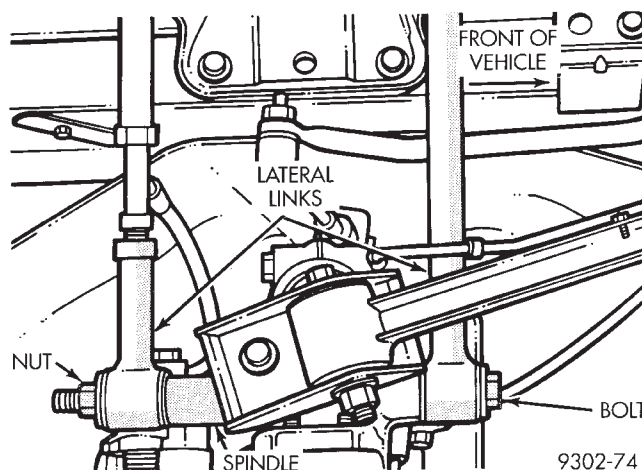

Fig. 5 Lateral Link Attachment To Spindle
(1) Raise vehicle on jackstands or centered on a frame contact type hoist. See Hoisting in the Lubrication and Maintenance section of this manual, for the required lifting procedure to be used for this vehicle.
(2) Remove right rear wheel and tire assembly from the vehicle.
(3) Remove the nut and bolt attaching right lateral links to the spindle (Fig. 5).
(2) Install the right lateral links attaching bolt at the crossmember. **Note: Right lateral link attaching bolts MUST be install, so head of bolt is facing front of vehicle (Fig. 5 and 7).**
(3) Position crossmember on frame rails and install the 4 crossmember to frame rail attaching bolts (Fig.
(4) Torque the lateral links to crossmember attaching bolt to 140 N•m (105 ft. lbs.).
(5) Align right lateral links with spindle and install the lateral link to spindle attaching bolt (Fig. 5). Torque the lateral link to spindle attaching bolt to 140 N•m (105 ft. lbs.).